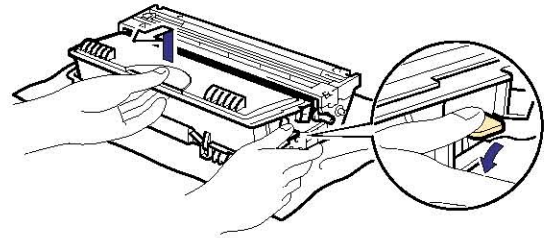

Fig. 5-2
- (3) While pressing the lock lever, pull the toner cartridge out of the drum unit assembly. (Fig.5-2)